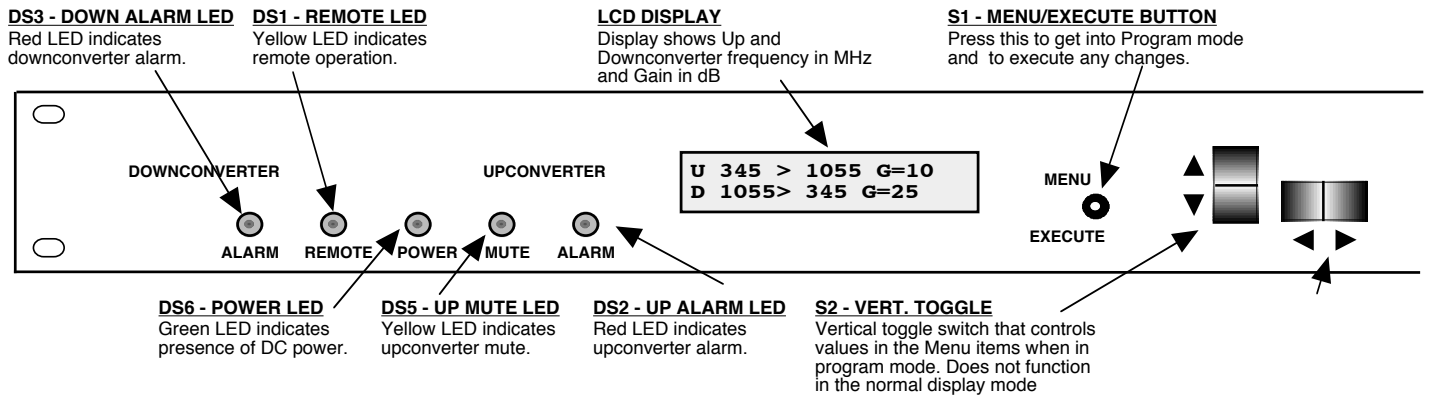

Figure 2.2 Model 2017-1111-345 Front Panel Controls and Indicators
- 8.) Be sure DS6 (green, DC Power) is on and DS2 (red, Alarm) is off (Figure 2.2).
- 7.) Be sure DS6 (green, DC Power) is on and DS3 (red, Alarm) is off (Figure 2.2).
2.5.1 Functions - This section describes operation of the front panel controls. There are three operator switches, the LCD display and alarm indicator LEDs. All functions for the equipment are controlled by these components. The functions are (see Figure 2.2):
Alarm indications appear on the LEDs (see figure 2.2).